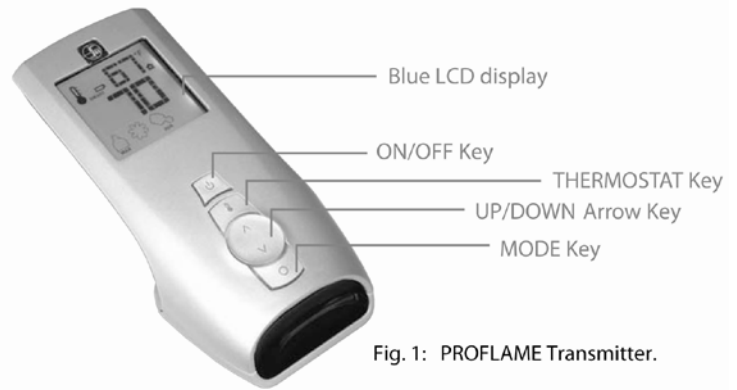

Fig. 1: PROFLAME Transmitter.
5. Slide the wall receiver switch to "REMOTE". Locate the "Standing Pilot ON/OFF Switch". See Figure 1. Toggle "Standing Pilot ON/OFF Switch" to "ON". You will hear a series of clicks and after a few seconds, you will hear sparking at the pilot spark electrode.